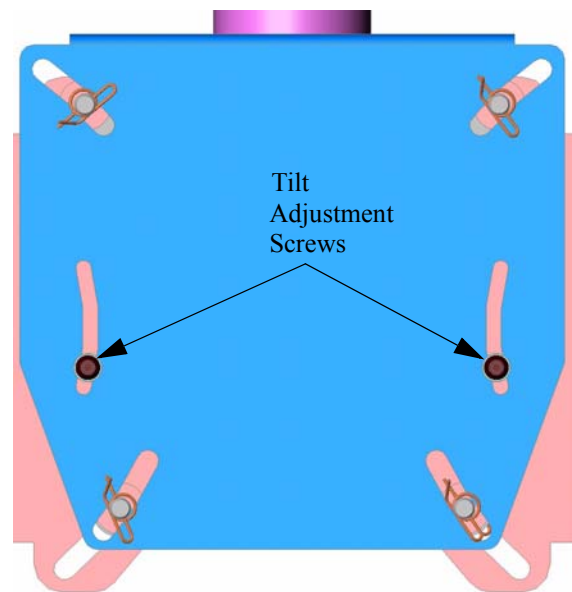

Figure 11. Adjust Pitch
1. Loosen the four 5/16-18 button head cap screws (see Figure 11).